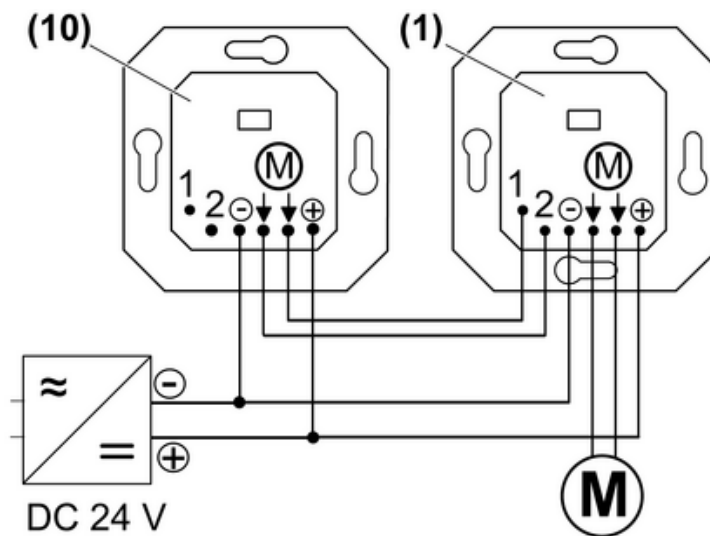
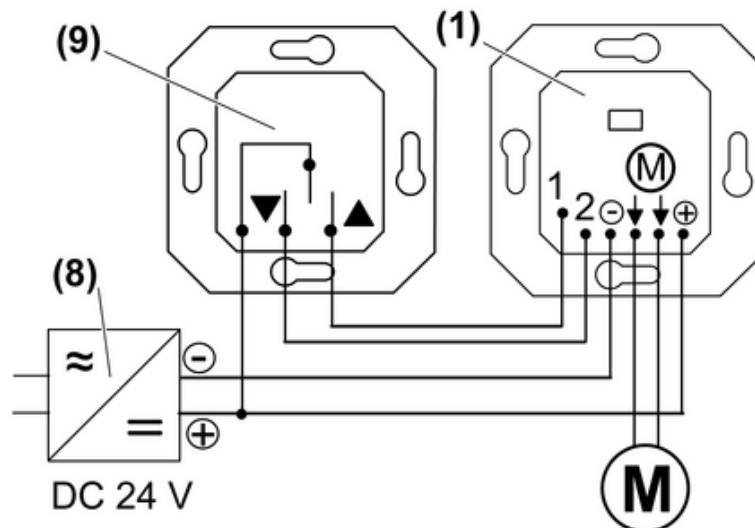
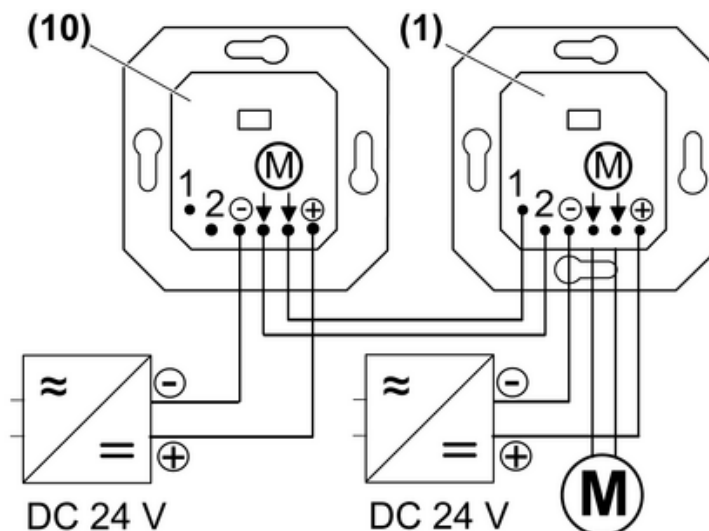

Figure 5: Insert with an additional 24 V insert as an extension
Figure 6: Connection diagram for insert with mechanical extension
Figure 7: Connection diagram for two inserts supplied via two power supply units
- Connect extension according to connection diagram (Figure 5), (Figure 6) or (Figure 7).